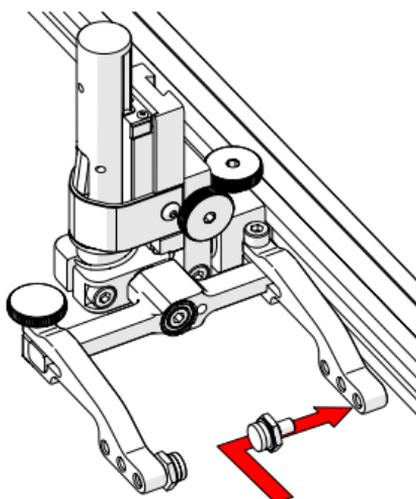

Fig. 66 - Place buttons
3. Position the pivot buttons where necessary. When a narrow scanning footprint is required, use the pivot button holes closest to the yoke (Fig. 66).